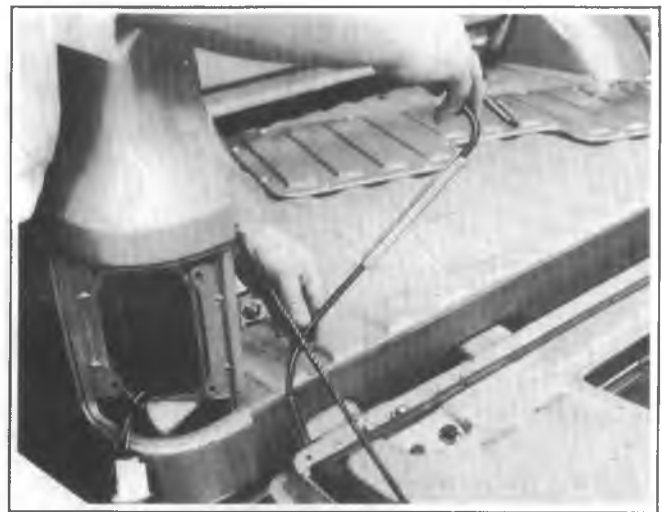

Fig. 2D-67--Removing Torque Rod (Utility)
2. Disconnect side latch remote control rods from center control by removing retaining clips. See figure 2D-68.